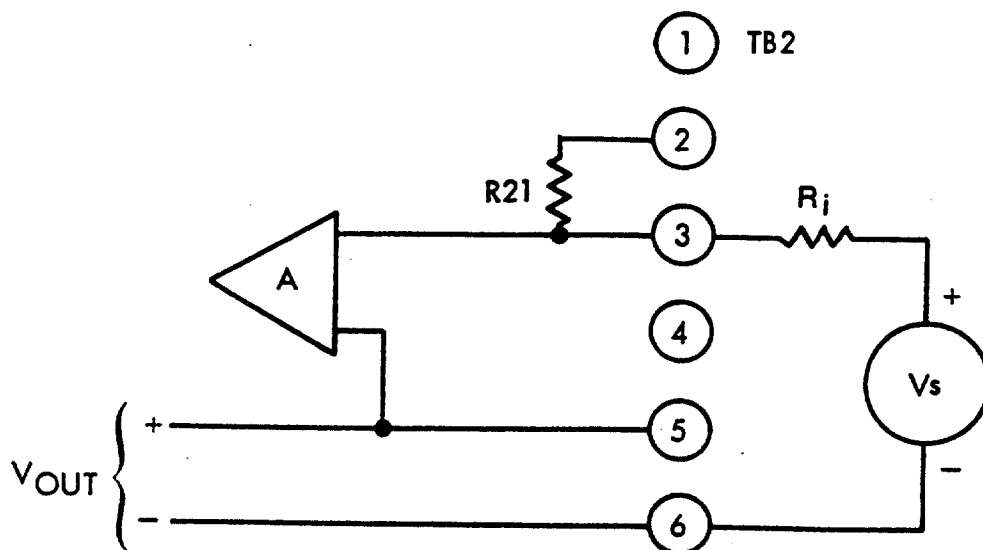

Figure 3-1 Unity Gain
- a. Unity Gain (1V/V) (Figure 3-1)
- 4) Connect the signal programming source between TB2-3 and TB2-6 using a series resistor R_i as shown on Figure 3-1. Select R_i based on the rated maximum voltage of the SRL and 200 ohms per volt (e.g., 60V SRL units will use R_i of 12K). Use a precision 1/2 watt resistor such as the RL 20S type. Observe the proper polarity of signal source (negative) on TB2-6.